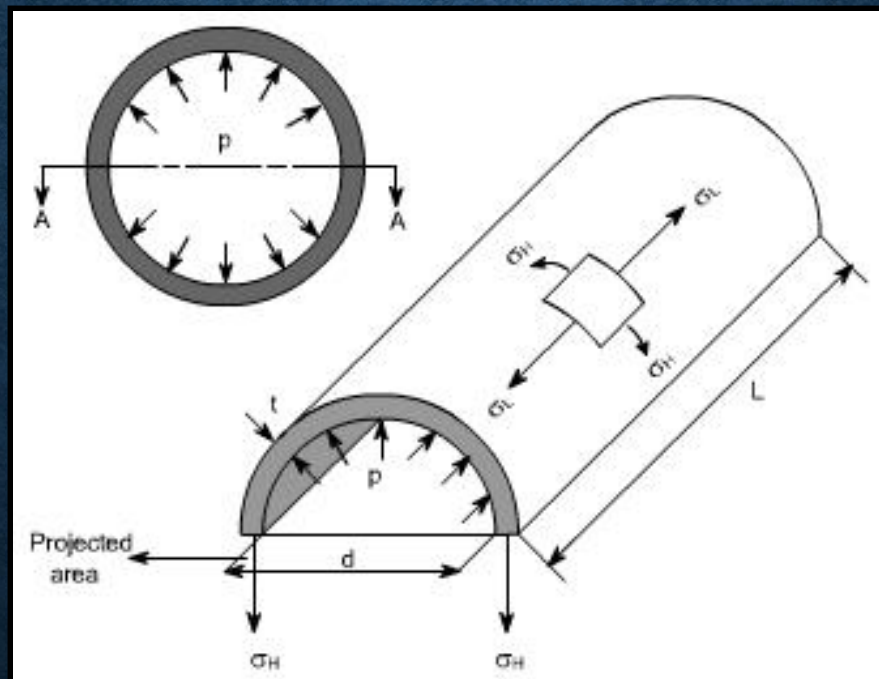

Figure 2: Half of a thin cylinder subjected to internal pressure
- This is the stress which is set up in resisting the bursting effect of the applied pressure and can be most conveniently treated by considering the equilibrium of half of the cylinder as shown below in Figure 2.